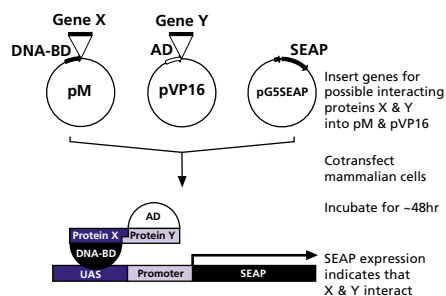

Figure 1. The BD Matchmaker Two-Hybrid Assay procedure.
We now offer a BD Living Colors™ DsRed Polyclonal Antibody for detecting *Discosoma sp.* red fluorescent protein (DsRed). The antibody was raised in rabbits against DsRed-Express. Western analysis (Figure 1) shows that it also recognizes DsRed1, DsRed2, and Fluorescent Timer (DsRed1-E5)—DsRed variants available exclusively from BD Biosciences Clontech (1–3). The antibody binds DsRed in both C- and N-terminal fusion constructs, so it can be used to identify, confirm, and quantify fusion constructs expressed in bacterial and mammalian cells. It does not recognize HcRed (4) or EGFP.
Figure 1. The DsRed Polyclonal Antibody produces a strong, specific Western blot signal. HeLa cells were transiently transfected with the following vectors, and then analyzed by Western blot using the DsRed Polyclonal Antibody at a 1:16,000 dilution. Each lane contains 15,000 cell equivalents. HcRed = *Heteractis crispa* far-red fluorescent protein (4). Lane 1: control (untransfected cells). Lane 2: pDsRed1-N1. Lane 3: pDsRed2-N1. Lane 4: pCMV-DsRed-Express. Lane 5: pTimer. Lane 6: pHcRed1-N1. Lane 7: pEGFP-N1. The weak signal in Lane 2 is due to the low abundance of DsRed1 in the cells.
This new BD Matchmaker system provides all the essential reagents to build *and* screen as many as five cDNA libraries. Like our previously released Two-Hybrid Library Construction & Screening Kit (#K1615-1 or #630445; 2), the new One-Hybrid Kit takes advantage of BD SMART™ cDNA synthesis technology†, one of the most reliable methods for amplifying cDNA while maintaining gene representation (3). Diagrammed in Figure 1, the BD SMART method enables you to build a complete one-hybrid library from any tissue or cell source, starting with only 1 µg of total RNA.
Figure 1. Construct and screen a one-hybrid library in just 7 days. First, a DNA target sequence (the bait) is inserted into pHIS2, the reporter plasmid, which encodes the nutritional marker *HIS3*. Second, a cDNA library is synthesized using the BD SMART reagents provided. Third, yeast strain Y187 is cotransformed with the library, the pHIS2 reporter, and *Sma*I-linearized pGADT7-Rec2. To screen for positive one-hybrid interactions, spread the transformation mixture on selective medium and incubate (1). *In vitro* ligation and bacterial amplification are unnecessary because the cloning takes place in yeast via homologous recombination—another time-saving feature you won't find in any other one-hybrid system.
One easy way to test interactions in mammalian cells is to use the BD Matchmaker™ Mammalian Two-Hybrid Assay Kit 2. This updated kit offers a simple three-vector assay for use in any mammalian cell type (Figures 1 & 2). Two of the vectors encode DNA-BD and AD fusions, while a third, the
How can you further define a gene's role in disease? By going beyond conventional microarray technology. Now you can study gene expression in a panel of cancer cell lines and conditions using our new **Cancer Cell Line Profiling Array** (Figure 1). Simultaneously study the effects of DNA damage, oxidative stress, and various metabolic inhibitors on gene expression in 11 tissue types. Because the Cancer Cell Line Profiling Array monitors different cellular conditions in a high-throughput format, you can quickly obtain an expression profile of your target gene and gain insight into how it may function.
Figure 1. Profile gene expression in 26 cancer cell lines treated with 26 individual agents using the Cancer Cell Line Profiling Array. The array lets you monitor different conditions simultaneously using a total of 702 complex cDNA samples representing 11 tissue types. For more information about cell lines and treatments represented on this array, visit bioinfo.clontech.com/dparray. UBI: ubiquitin cDNA. Columns 11–37 = treatments. Rows A–FF = cell lines.